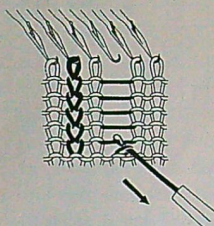

Fig. 40
4. Catch the next parallel thread into the hook, and pull forward until new stitch is formed. See Fig. 40, 41.